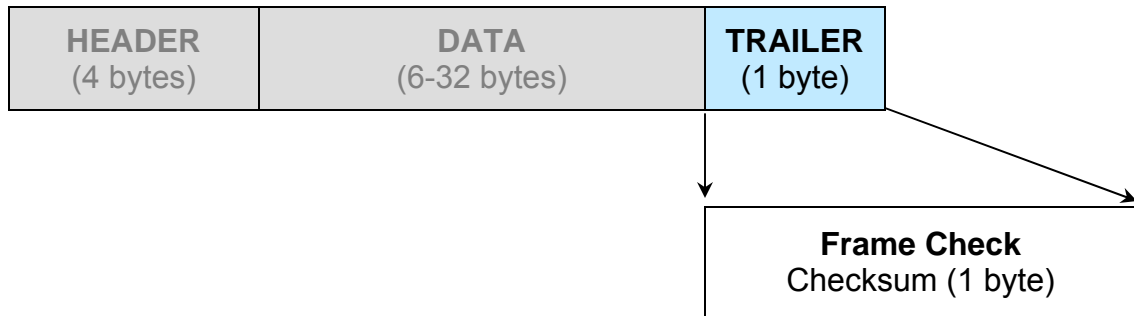

Figure 7-6: Trailer Sub-Packet
The trailer component contains only one (1) byte called the Frame Check Sequence, shown in **Figure 7-6**.